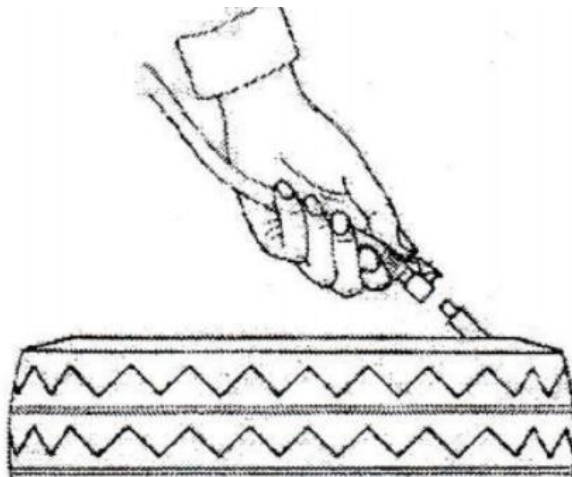

Figure 13
- ◇ The special lubricant is coated in the rim, it can prevent the rim flange is damaged, and can make the installation more convenient. Move the tire, make the rim flange go through bottom which in the front of the mounting head (I), along the mounting head (I), make the rim flange be on the top which at the rear of the mounting head (I).
- ◇ As shown in Figure 13, pressing the flange into the groove of rim with hand, step pedal (Z), make the turntable rotates clockwise, until the rim flange falls completely into the rim. (hands and the other parts of the body are to be as far away as possible from the operating arm (M), in order to avoid accidents.
- ◇ Remove the tire from the turntable, if you need a greater inflation pressure, you can place the tire into a special protective cage to continue to inflate it, use the pneumatic gun provided by the tyre changer to inflate, according to the following steps to complete: first, connect the pneumatic nozzle to the tire valve (as shown in Figure 13), second, confirm whether the tire diameter is consistent with the diameter of the rim, third, release the trigger of the gas gun and control the pressure of the pressure gauge in the process until the tire is fit to the rim, at last, continue to inflate, and often check the inflation gauge pressure until the pressure reaches the specified value of the tire. (Note: use the inflated gun to inflate the tire, regularly check the pressure of the inflation gauge).